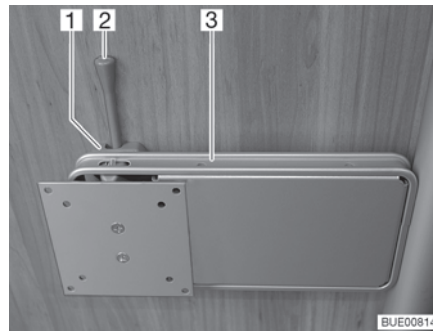

Fig. 66 Holder on the column
- Push the release lever (Fig. 66,2) to the side and turn the holder (Fig. 66,3) with the flat screen to the desired position.
- Turn the flat screen back until the holder (Fig. 66,3) engages in the lock (Fig. 66,1).